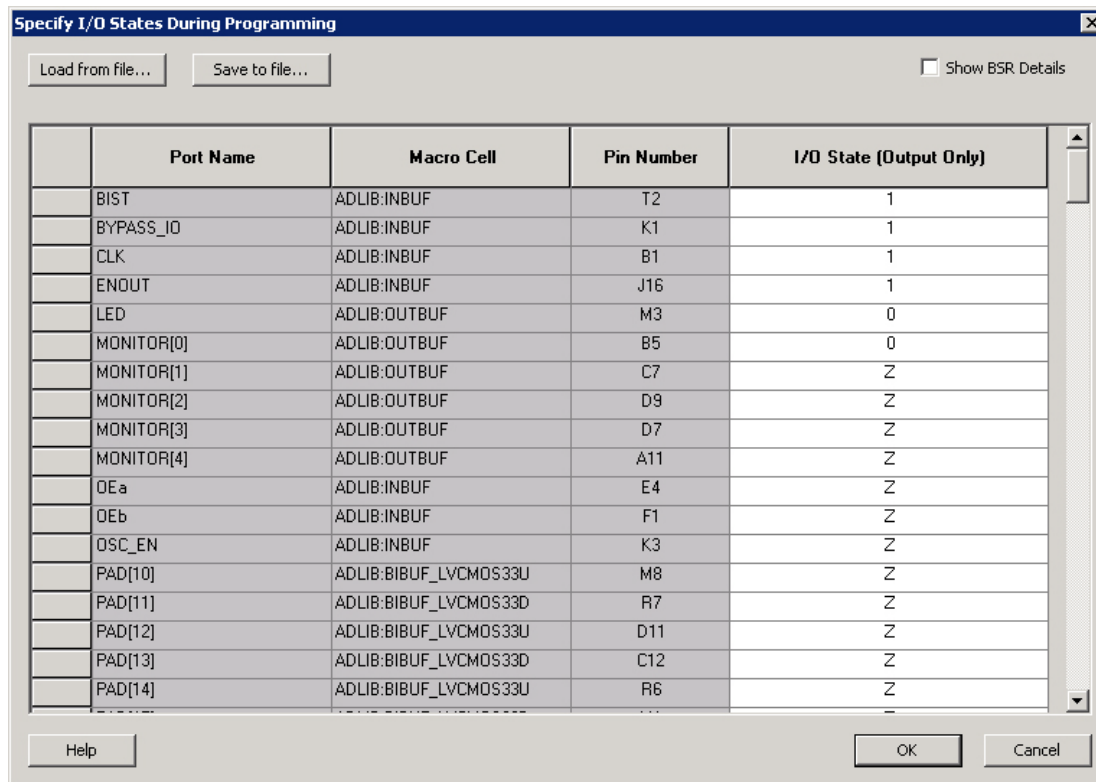

Figure 1-5 • I/O States During Programming Window
4. Sort the pins as desired by clicking any of the column headers to sort the entries by that header. Select the I/Os you wish to modify (Figure 1-5 on page 1-9).